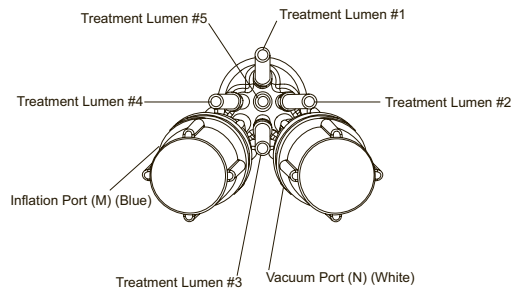

Figure 3: TREATMENT LUMEN ORIENTATION
4. The Treatment Lumens are numbered '1', '2', '3', '4' and '5' and positioned as shown in Figure 3. Lumen number '1' corresponds to the offset lumen closest and parallel to the Treatment Lumen #1 Stripe (I) along the catheter shaft. Treatment Lumen number '5' corresponds to the central lumen. Remove the red caps and use commercially available connectors to attach the treatment lumens to the afterloader.